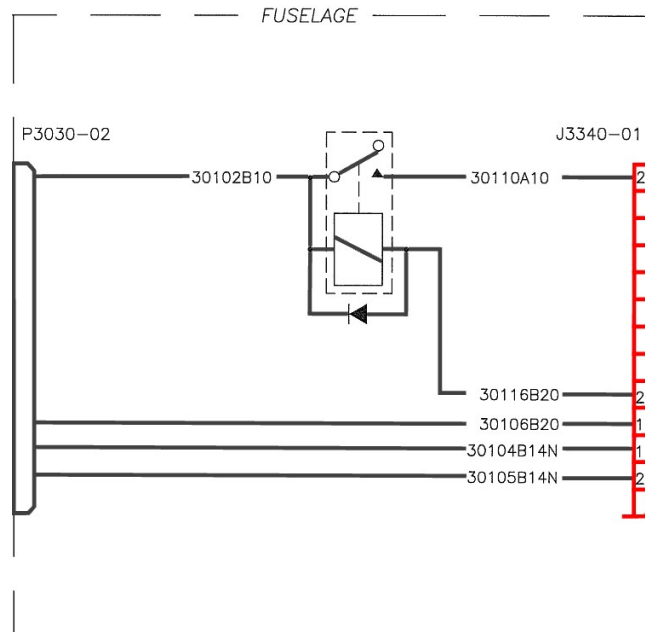

Figure 31: Fuselage Schematic highlighting the Wing Connection
- 12.2.5** Follow the instructions below to assemble the wire connection for the fuselage to the wing, as shown in Figure 31.